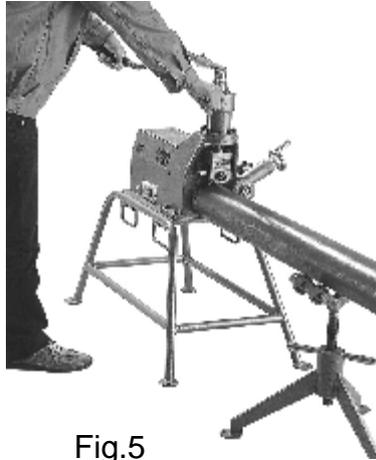

Fig.5
will move outward. If it moves, you should adjust the bracket left and right position till it doesn't move outward. After test exactly, let four feet of the machine and three feet of bracket fixed (See Fig.5).
3. Tighten the relief valve of oil cylinder,turn the handle,make the pinch roller holder toward down.Start the machine,make pinch roller turn down the pipe gradually.Turn the handle at a faster speed at the beginning to form the initial channel and later on you shall turn slowly.(See Fig.5)